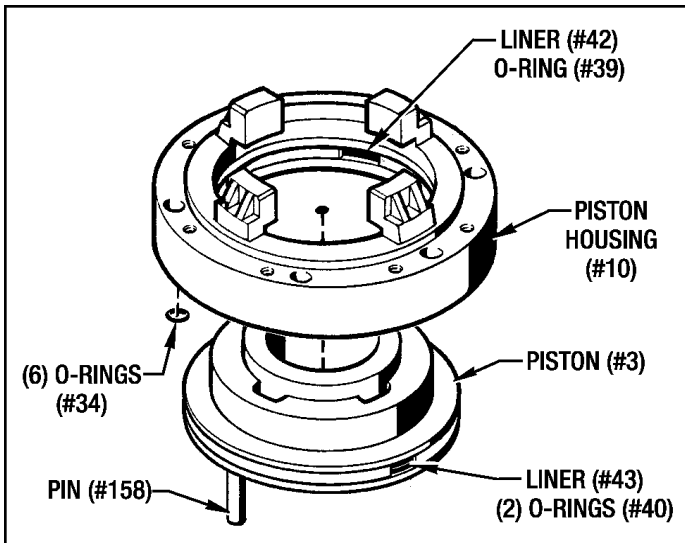

Figure 7.8 - Removing Piston Seals on Size MB-210
A. Posistop MB-210 & MB-210L Coupler Brake Only (See Figures 7.8 and 10.1)
1. Take out the (6) Screws (#153) and (6) Lockwashers (#128) from the Piston Housing (#10).